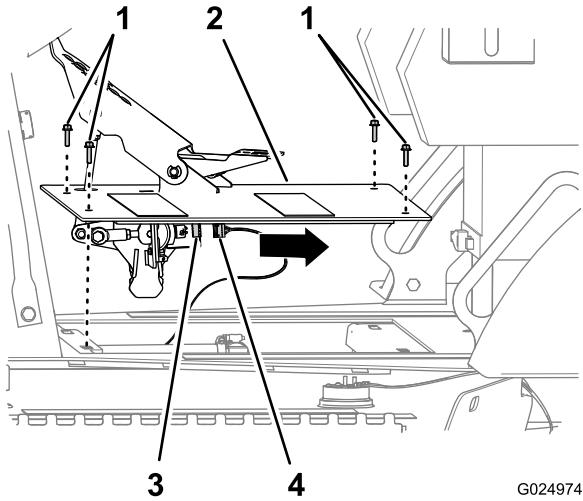

Figure 115
1. Remove the 4 hex-flanged head bolts that secure the traction-pedal assembly to the chassis of the machine (Figure 115).
2. Disconnect the 6-socket connector of the machine harness from the 6-pin connector of the traction-pedal sensor (Figure 115).
3. Remove the traction-pedal assembly from the machine (Figure 115).
1. Connect the 6-socket connector of the machine harness to the 6-pin connector of the traction-pedal sensor (Figure 115).
2. Align the holes in the plate of the traction-pedal assembly with the holes in the chassis of the machine (Figure 115).
3. Secure the traction-pedal assembly to the chassis of the machine with the 4 hex-flanged head bolts (6 x 25 mm); refer to Figure 115.